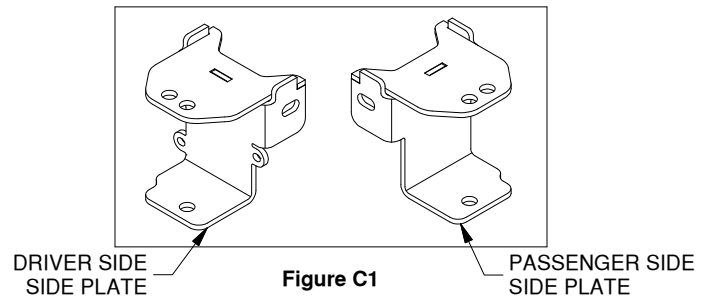

Figure C1
1. **Install side plates.** Using Figure C1, determine the driver and passenger side plates. Place the appropriate side plate on the inside of the frame with the small flanges fitting between the cross members. The top long flange will sit on the upper leg of the frame with the bottom long flange sitting on the top of lower leg of the frame. With each side plate in place insert carriage bolts through the square holes in the cross members and through the small flanges on the side plates. Place a flat washer, lock washer and nut on the bolts and leave loose at this time. Next, place a 5/8" x 1-1/2" bolt with a flat washer and frame spacer, as shown in Figure C2 & C3, through the oval holes in the frame. Two will go through the bottom frame leg using a 1/4" frame spacer and two in the top frame leg using a 1/8" frame spacer. After passing through the frame and side plate install a lock washer and nut.